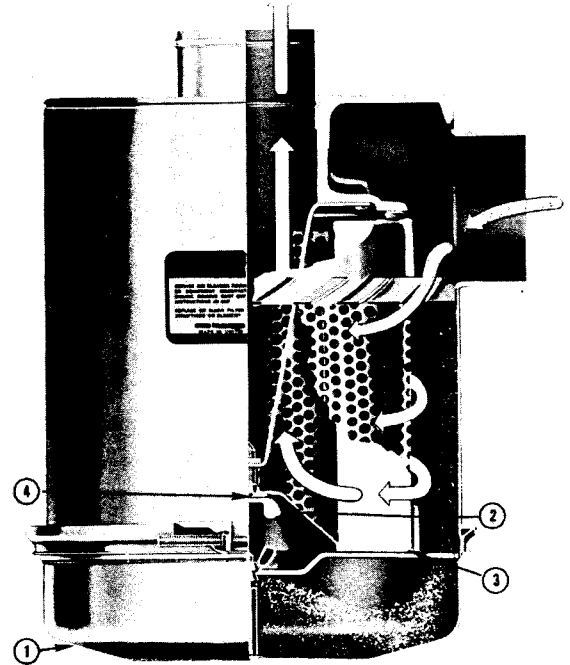
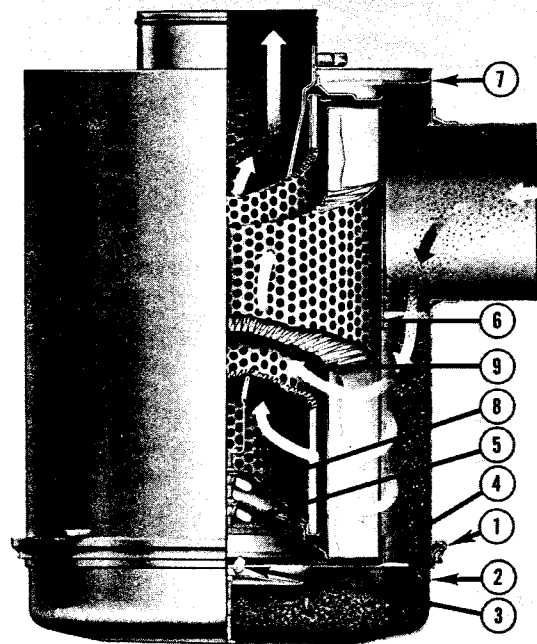

Fig. 2-11, (V10005). Air cleaner — heavy duty
Fig. 2-12, (N11030). Air cleaner — heavy duty (dual element)
1. Loosen wing bolt, remove band securing dust pan (1, Fig. 2-11), (2, Fig. 2-12).
2. Loosen wing nut (2, Fig. 2-11 and 3, Fig. 2-12), remove dust shield (3, Fig. 2-11), (4, Fig. 2-12), from dust pan (1, Fig. 2-11), (2, Fig. 2-12), clean dust pan and shield.
3. Remove wing nut (2, Fig. 2-11), (5, Fig. 2-12) securing air cleaner primary element (6, Fig. 2-12) in air cleaner housing, inspect rubber sealing washer on wing nut (4, Fig. 2-11), (5, Fig. 2-12).
- a. Check air restriction indicator, if air restriction is excessive, disassemble air cleaner, remove wing nut (8, Fig. 2-12), and replace safety element (9).